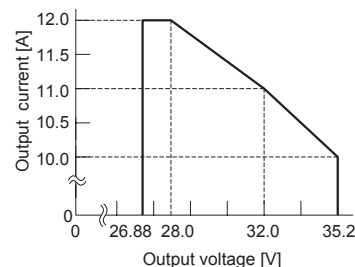

Fig. 4.8 Output Current derating curve (CQHS3504832)
(5) Output current derating (CQHS3504832)
■When the output voltage adjust less than rated output voltage, the output current range becomes increasing as shown in Fig. 4.8.